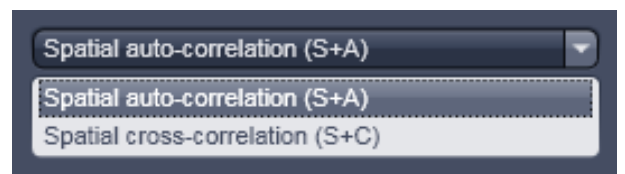

Fig. 707 Correlation pull down menu
**Correlation** allows you to select the type of correlation analysis you want to perform. For a one channel recording the only option is **Spatial auto-correlation (S+A)**. For a two channel recording you can select from the pull down menu between **Spatial auto-correlation (S+A)** and **Spatial cross-correlation (S+C)** (Fig. 707).